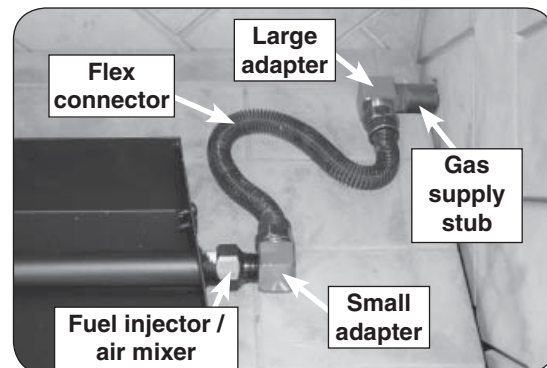

Fig. 9-1 Connect gas supply
2. Locate the gas-supply stub inside the fireplace and remove the cap, if attached (reference Fig. 9-1).
3. Remove the small adapter connected to the flex connector (included). Attach the adapter to the fuel injector / air mixer found on the side of the burner pan using a pipe compound resistant to all gasses. Tighten securely. Then attach the flex connector to the adapter. Tighten securely (See Fig. 9-1).
5. **Be sure gas to the fireplace is off.** Remove the large adapter connected to the flex connector. Attach the adapter to the gas-supply stub using a pipe compound resistant to all gasses. Tighten securely. Then attach the flex connector to the adapter. Tighten securely. See Fig. 9-1. Ensure the pan rests level on the fireplace floor after connection. Adjust the pan if necessary.